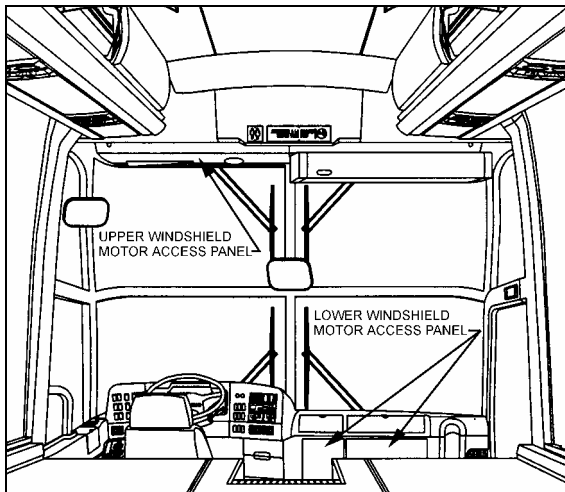

FIGURE 30: WIPER MOTORS LOCATION
The windshield wipers are controlled by two electric wiper motors that are accessible for maintenance after raising the appropriate access panel at the front of the coach (refer to figure 30).
5. Install the right wiper arm in its normal position (in the middle of the windshield (Fig. 30)). Refer to paragraph "8.2.1 Sweep Adjustment".
7. Install the left wiper arm in its normal position (in the middle of the windshield (Fig. 30)). Refer to paragraph "8.2.1 Sweep Adjustment".
3. Install the left wiper arm in its normal position (in the middle of the windshield (Fig. 30)). Refer to paragraph "8.2.1 Sweep Adjustment".
The lower windshield wiper motor is located at lower front of the vehicle, behind the defroster panel. Refer to figure 30 for motor location.
The upper windshield wiper motor is located above L.H. upper windshield panel, refer to figure 30 for motor location. To remove the motor, it is necessary to remove left sun visor and upper windshield panel.